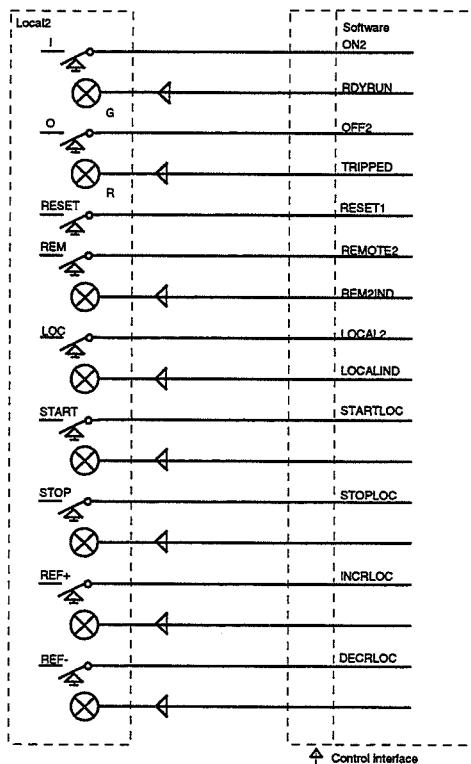

Fig. 3 Operation from operator's panel.
- the operator's panel located on the convertor cubicle, see fig. 3.